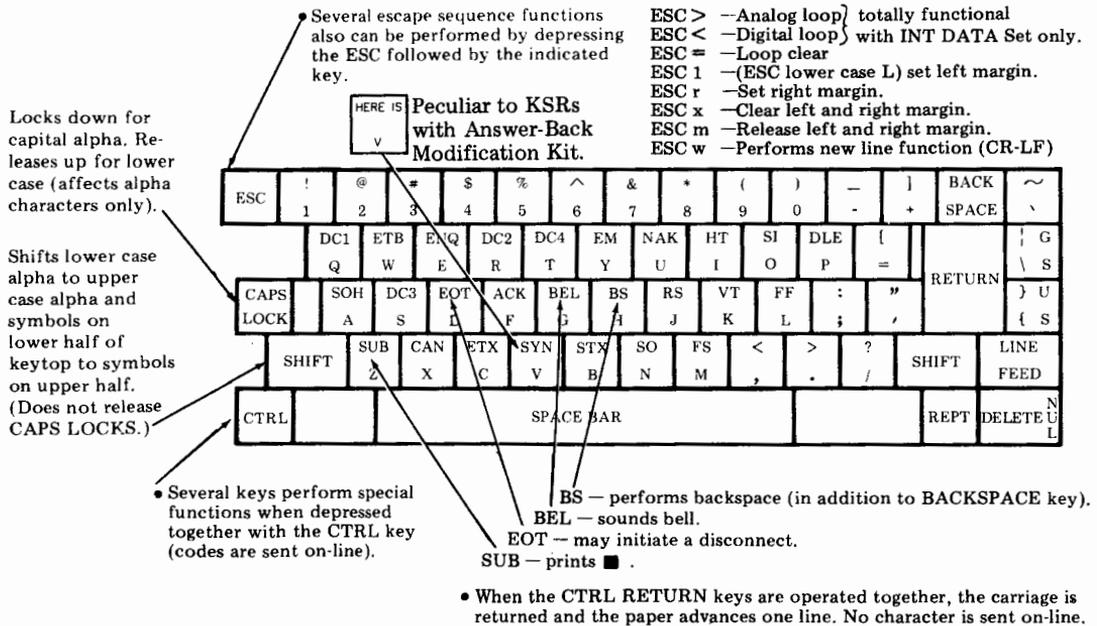

Fig. 4—KSR Keyboard Layout
2.16 The keyboard layout for the KSRs is shown in Fig. 4, along with brief descriptions on the keyboard-printer operation of several special keys. Character transmission is 1968 ASCII, (American National Standard Code for Information Interchange) 8-level with the 8th bit used for even parity on all characters sent.